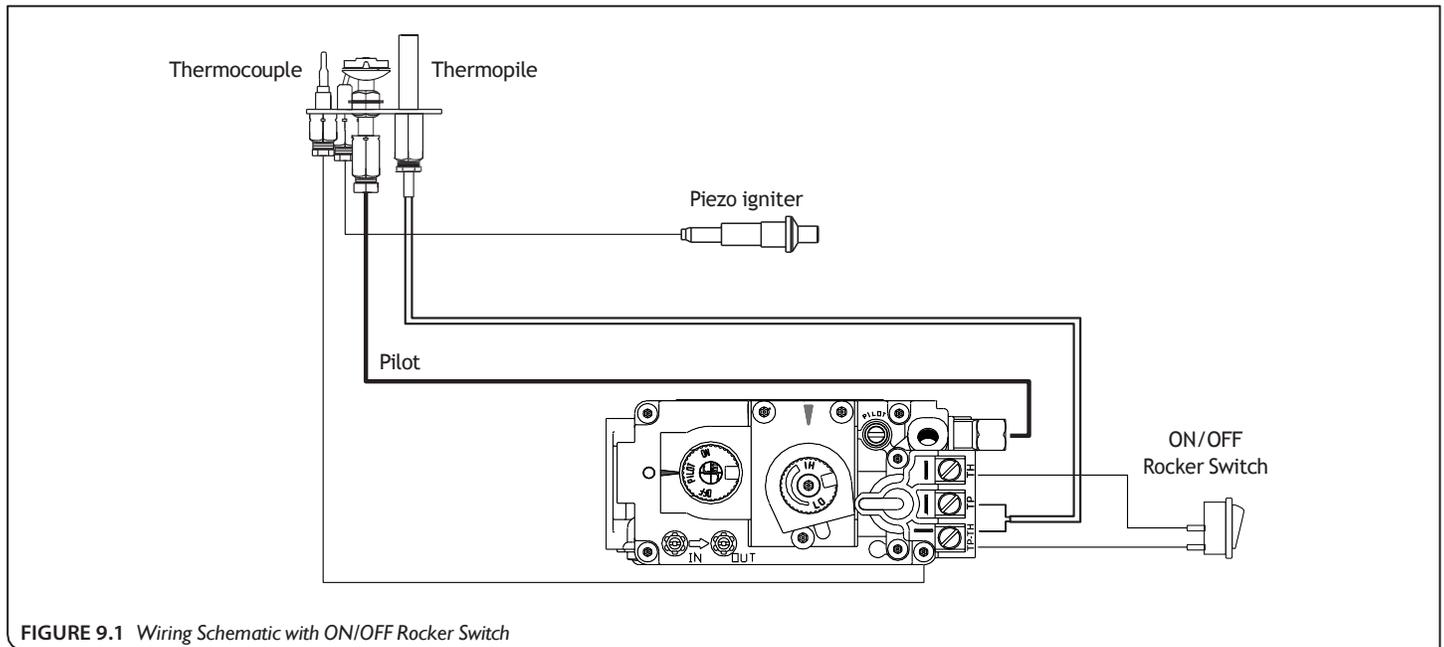

FIGURE 9.1 Wiring Schematic with ON/OFF Rocker Switch
- by disconnecting the wires from the back of the gas valve (FIGURE 9.1).